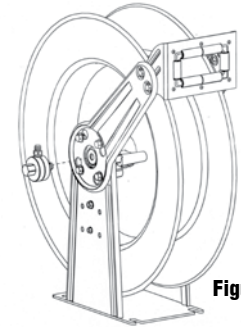

Figure 2
2. Remove swivel assembly from inlet shaft (see figure 2).